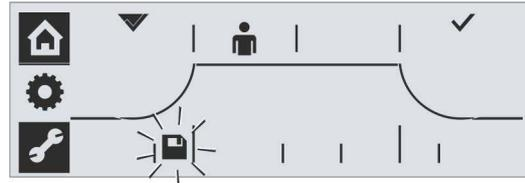

Fig. 12: Select Save symbol
16. Select Save symbol: Turn Drive Controller cw until the Save symbol starts to blink, fig. 12.